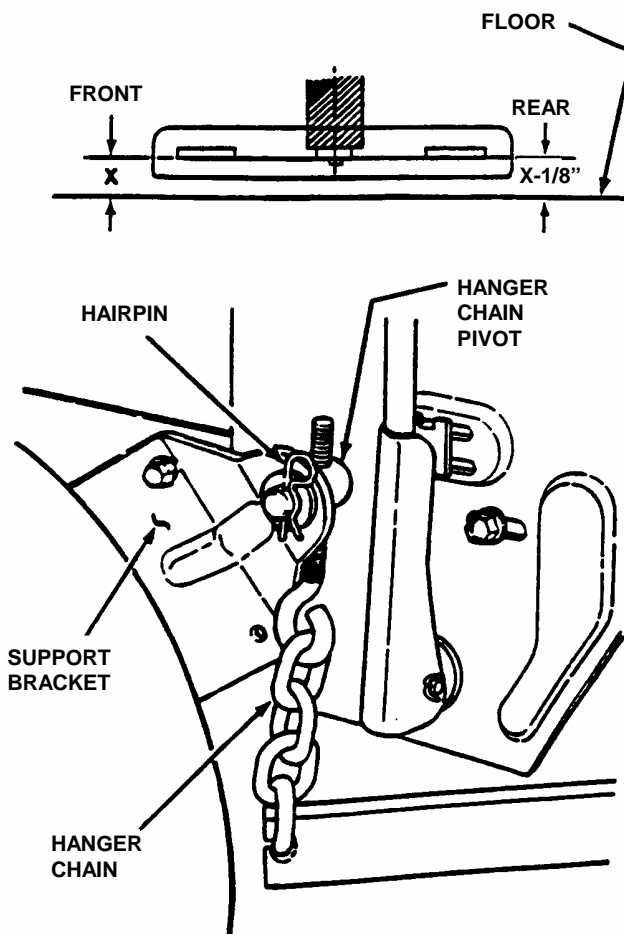

FIGURE 4.7
9. Readjust rear hanger chain pivots to align with holes in support brackets. See Figure 4.7.